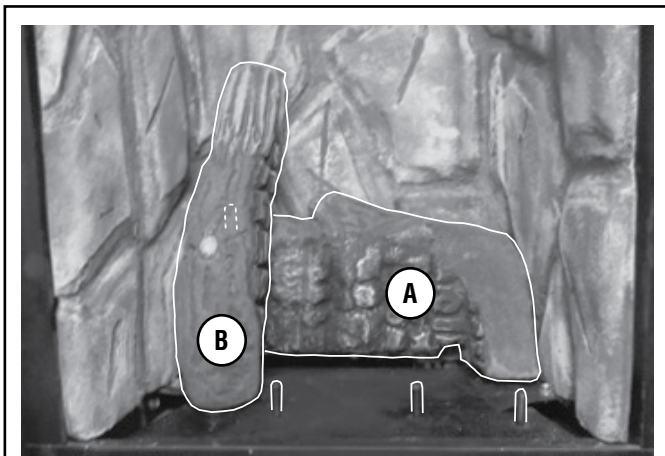

Figure 45 - Install Left Middle Log (B)
2. Place the left middle log (B) as shown in Figure 45. Position the hole on the bottom of log B over the corresponding locating pin on Log A.